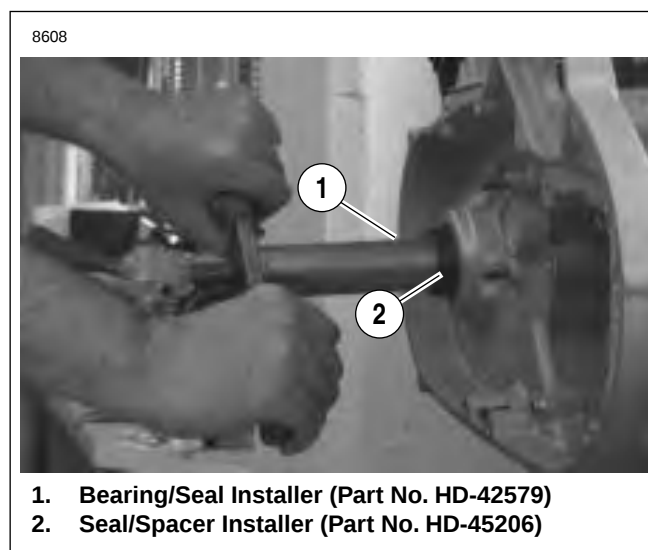

Figure 3-93. Install Bearing Seal/Spacer
See Figure 3-93. Use **SPROCKET SHAFT BEARING/SEAL INSTALLATION TOOL (Part No. HD-42579)** to install sprocket shaft tapered roller bearings and seal.
11. See Figure 3-93. Install bearing seal and spacer.
- a. Center seal/spacer driver (2) over seal, so that the sleeve (smaller OD) seats between seal wall and garter spring.
- b. Assemble SPROCKET SHAFT BEARING/SEAL INSTALLATION TOOL (1) (Part No. HD-42579) and SPROCKET SHAFT SEAL/SPACER INSTALLER (Part No. HD-45206) onto sprocket shaft. Follow procedure in Step 8.